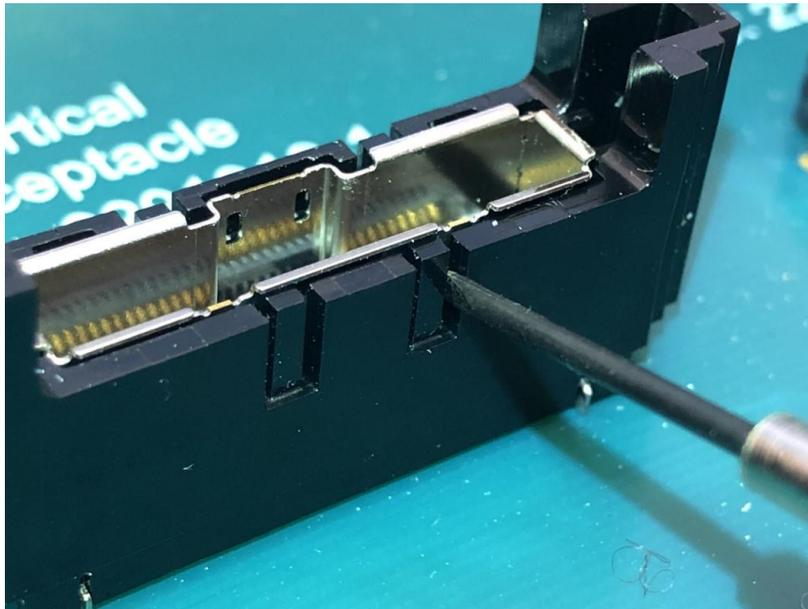

Figure 3
- Place the flat blade of screw driver in between a sleeve hook and the sleeve body as shown in Figure 3.